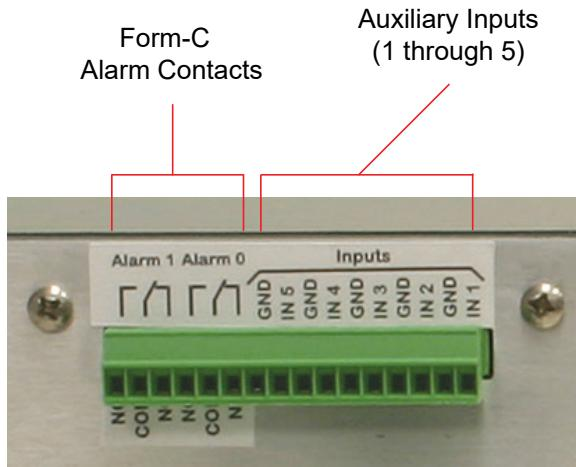

Figure 12: Alarm terminals. Normally open and normally closed terminals are available.
4) If you have a supervisory alarm system, connect its wiring harness to the alarm terminal screws (Form-C) at the back of the Control Unit. Refer to **Figure 12**. There are two sets of alarm contacts provided for convenience (Alarm 0 and Alarm 1). The alarm contact sets will change state in tandem so either or both can be connected to the supervisory alarm system. When an alarm event occurs the contacts will change state and when the event clears the contacts will change back to their original state.
There are 5 auxiliary input ports on the rear panel of the control unit as shown in figure 12. The inputs are labeled IN1 through IN5. These ports allow the system installer to connect alarm outputs from third-party equipment located in the shelter into the TTA system. This will allow the TTA systems extensive reporting features (Form-C, SNMP, SMTP, and SMS) to be used by the third-party equipment for alarm notifications.